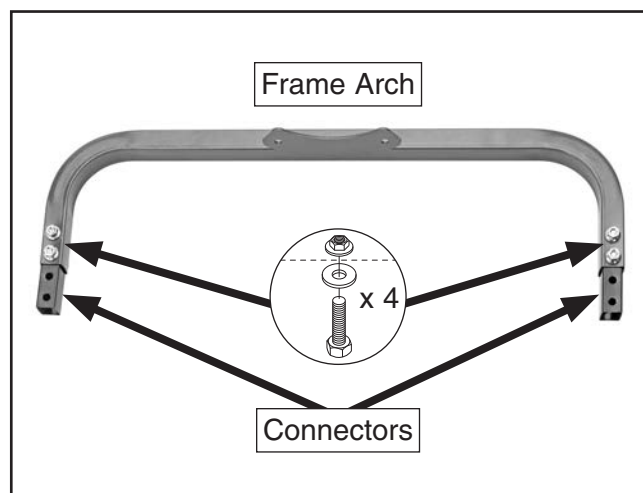

Figure 7. Connectors in frame arch fastened in place.
8. Align two holes in each connector with two holes in frame arch (see **Figure 7**) and secure with (4) $\frac{5}{16}$ "-18 x $1\frac{1}{4}$ " hex bolts, $\frac{5}{16}$ " flat washers, and $\frac{5}{16}$ "-18 flange nuts. Only hand-tighten for now.